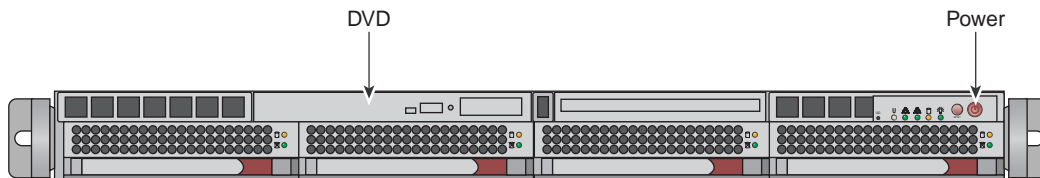

Figure 2-1 System Admin Controller Power On Button and DVD Drive
1. Turn on, reset, or reboot the system admin controller. The power on button is on the right of the system admin controller, as shown in Figure 2-1 on page 33.
2. Insert the SGI Admin Node Autoinstallation DVD in the DVD drive on the left of the system admin controller as shown in Figure 2-1 on page 33.